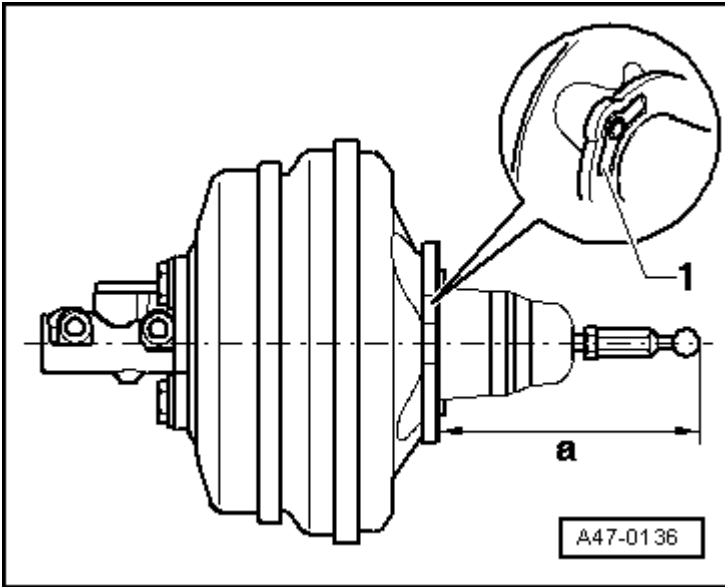

Fig. 11: Adjusting Ball Head
- Adjusting ball head **Fig. 11**